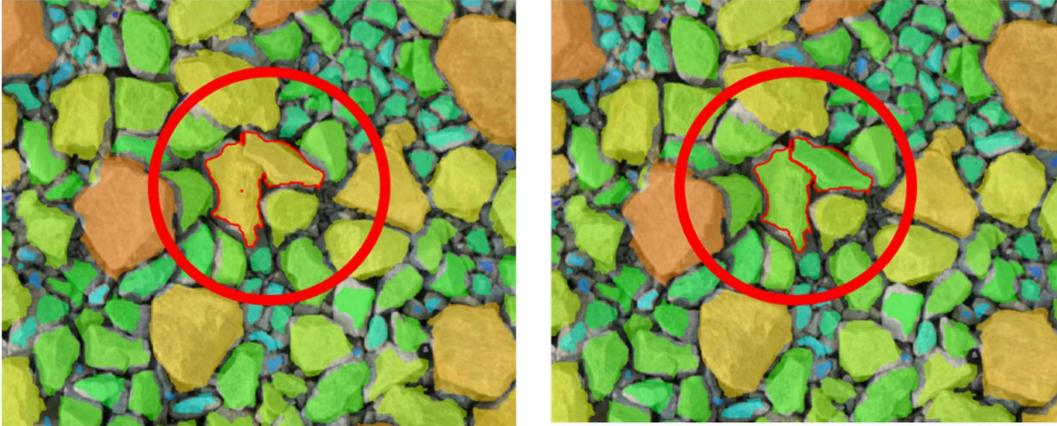

Figure 16: Splitting a fragment into two fragments
1. “*Split Fragment*” splits a fragments into two particles. Activate in the corresponding icon  in the toolbar and click on two different positions on the fragment (see Figure 16). “*Split Fragment*” considers the properties of the texture in the fragment’s texture patch. The split will be applied along the most prominent texture features of the fragment’s patch between the two clicked points. If a particular split line shall be preferred, it is recommended to click close to this split line on either side.